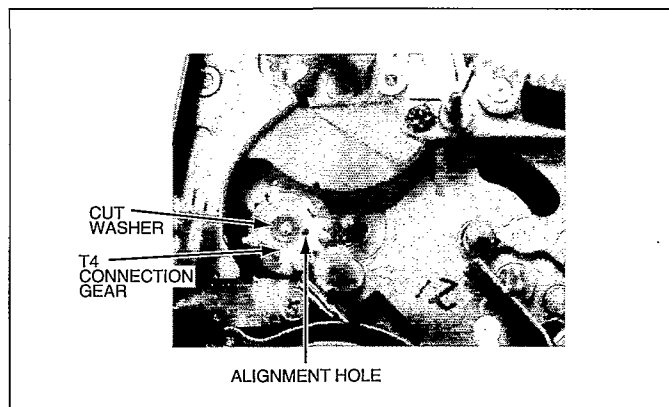

Fig. M-28
- Fig. M-28 Remove the cut washer and T4 Connection Gear. When replacing the T4 Arm and/or T4 Connection Gear, perform the "Mechanical Adjustment Procedures".
- Fig. M-28 Install the T4 Connection Gear and cut washer.